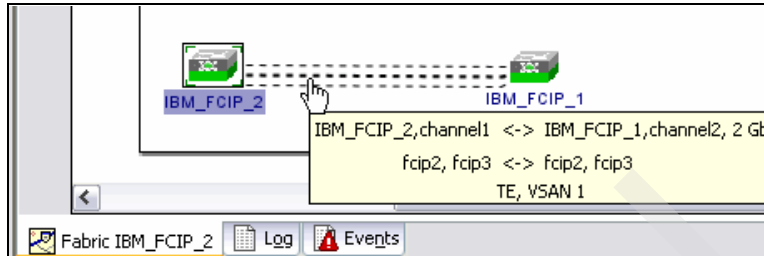

Figure 12-30 FM map display of FCIP PortChannel 2
1. The first step is to use the FM map. Place the cursor over the dotted line representing the FCIP PortChannel, and verify that it consists of the desired FCIP links and that the correct VSANs are trunking, as shown in Figure 12-30 on page 358. We are currently trunking the default VSAN 1.